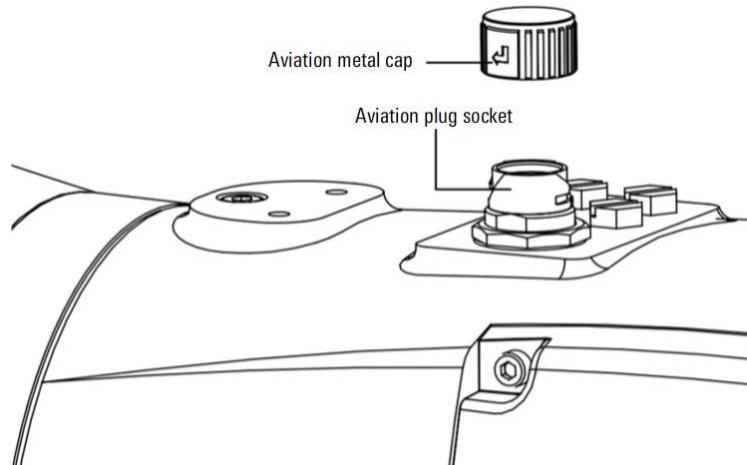

Figure 1-2 Step 1 diagram
Step1. Please refer to Figure 1-2. Unscrew and remove the metal cover of the aviation insert in the opposite direction of the rotation direction indicated by the metal cover of the aviation insert.